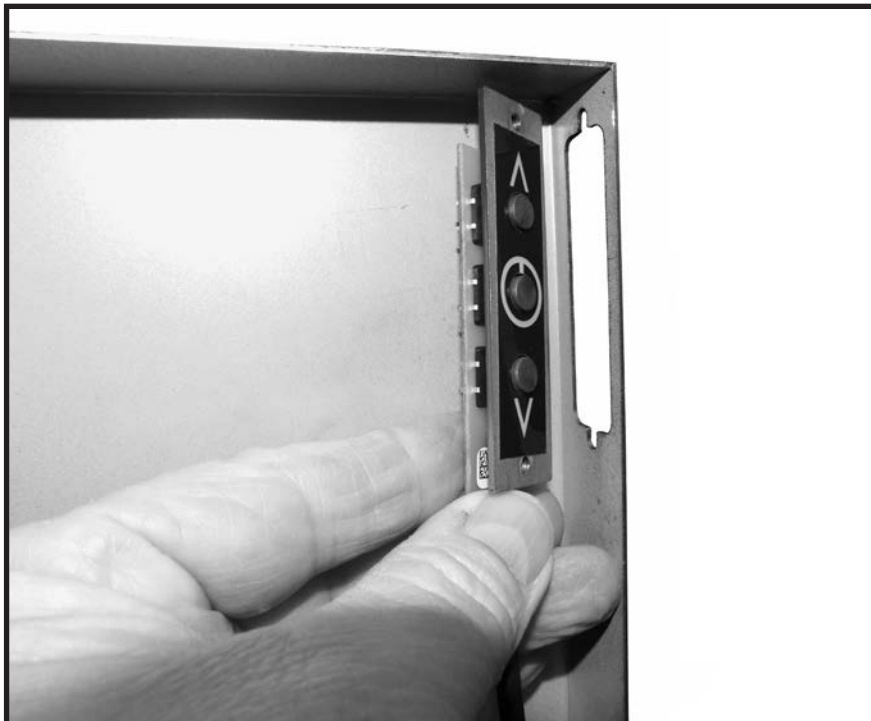

Figure 91: Positioning the switch behind the backing plate opening slot.
2. Position the ON/OFF switch against the open slot on the surround backing plate. Be sure to orient the switch as shown in (Figure 91).